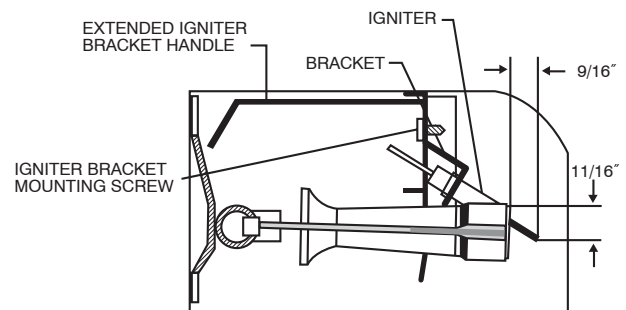

Fig. 13 - Igniter Bracket
- c. Using a 1/4-in. driver, remove the single screw securing the igniter bracket to the burner box bracket (See Fig. 13.) and carefully withdraw the igniter and bracket assembly through the front of the burner box without striking the igniter on surrounding parts. Note that the igniter bracket has a handle that extends to the front of the burner box to aid in handling. (See Fig. 13.)